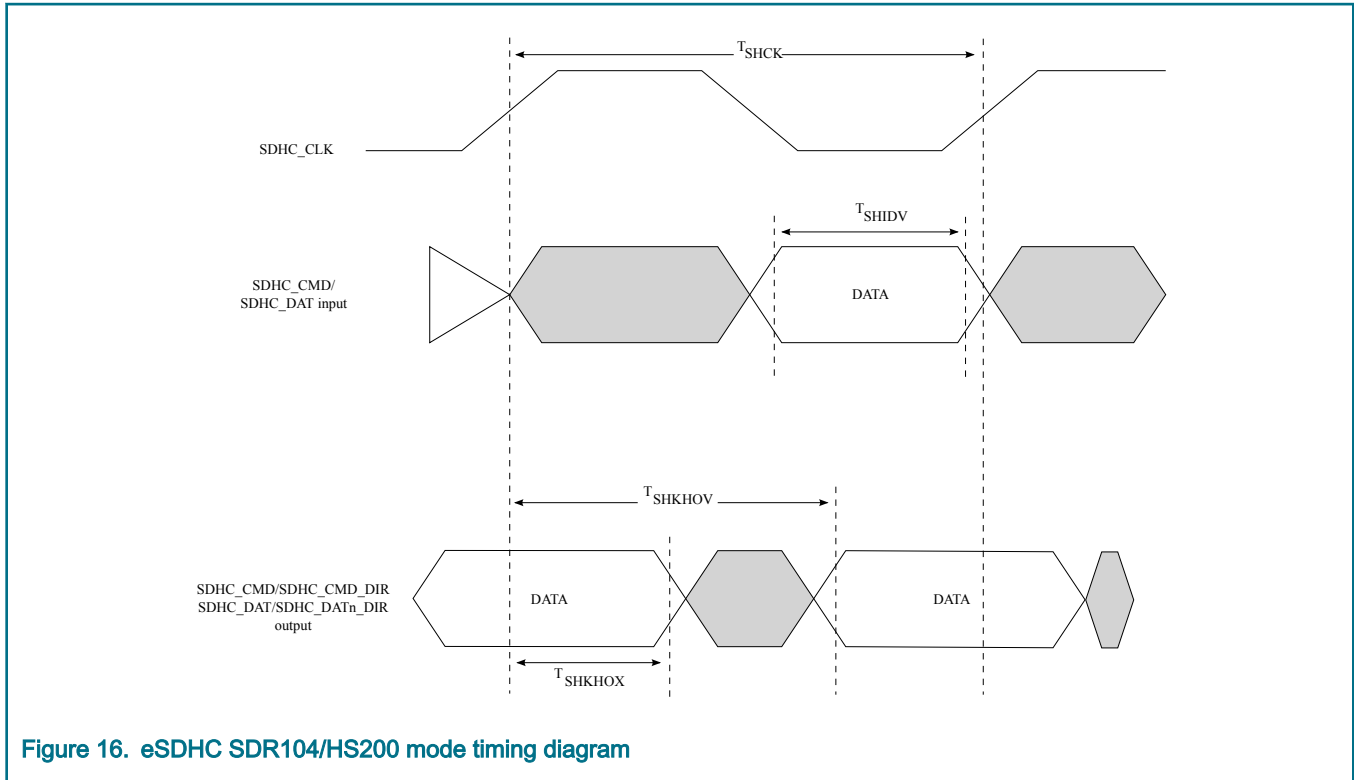
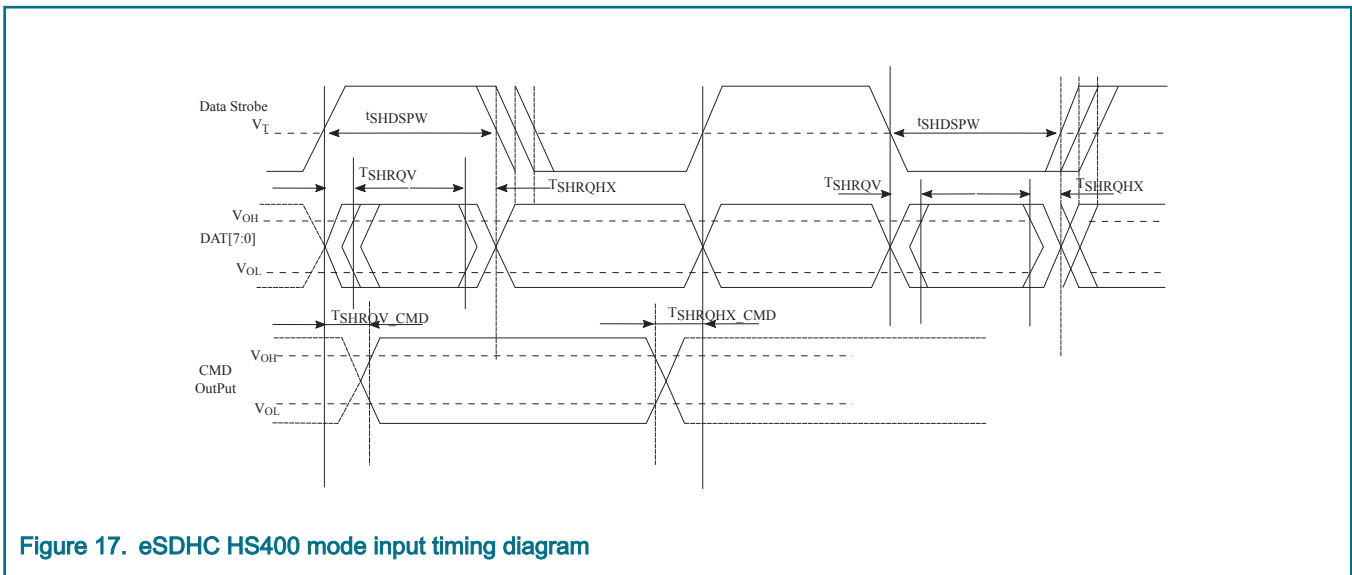
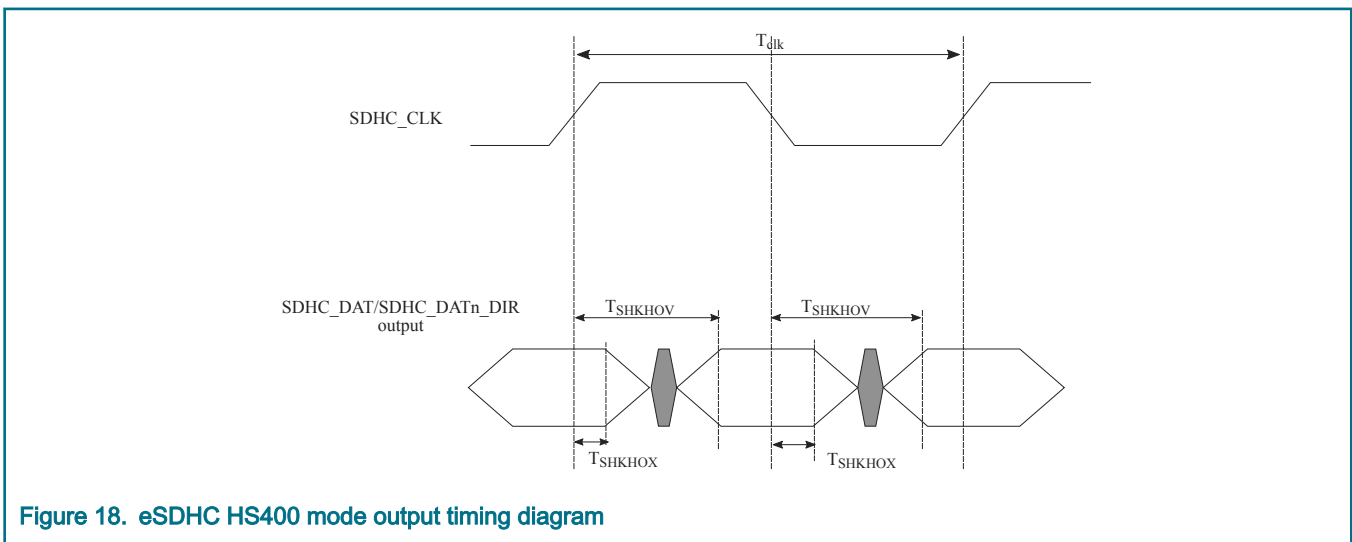

Figure 16. eSDHC SDR104/HS200 mode timing diagram
Figure 17. eSDHC HS400 mode input timing diagram
Figure 18. eSDHC HS400 mode output timing diagram
2. The symbols used for timing specifications herein follow the pattern of t_{(first two letters of functional block)(signal)(state) (reference)(state)} for inputs and t_{(first two letters of functional block)(reference)(state)(signal)(state)} for outputs. For example, t_{SHKHOX} symbolizes eSDHC highspeed mode device timing (SH) clock reference (K) going to the high (H) state, with respect to the output (O) reaching the invalid state (X) or output hold time. Note that in general, the clock reference symbol is based on five letters representing the clock of a particular functional. For rise and fall times, the latter convention is used with the appropriate letter: R (rise) or F (fall).
3. See Figure 16.
<p>1. $C_L = C_{BUS} + C_{HOST} + C_{CARD} \leq 15pF$.</p> <p>2. The symbols used for timing specifications herein follow the pattern of $t_{(first\ two\ letters\ of\ functional\ block)(signal)(state)\ (reference)(state)}$ for inputs and $t_{(first\ two\ letters\ of\ functional\ block)(reference)(state)(signal)(state)}$ for outputs. For example, t_{SHKH0X} symbolizes eSDHC highspeed mode device timing (SH) clock reference (K) going to the high (H) state, with respect to the output (O) reaching the invalid state (X) or output hold time. Note that in general, the clock reference symbol is based on five letters representing the clock of a particular functional. For rise and fall times, the latter convention is used with the appropriate letter: R (rise) or F (fall).</p> <p>3. See Figure 17.</p> <p>4. See Figure 18.</p> <p>5. For HS400 without enhanced strobe (DQS) command, see Figure 16.</p>